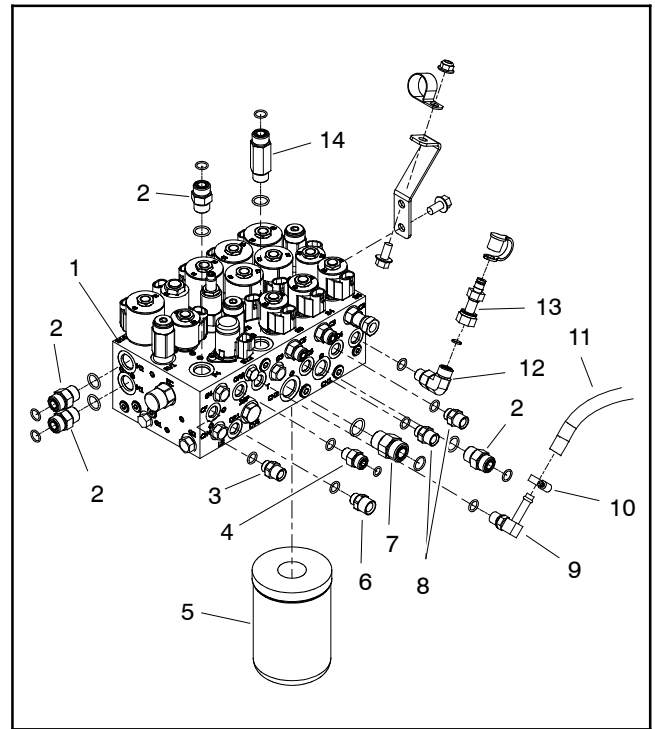

Figure 75
6. If hydraulic fittings are to be removed from manifold, mark fitting orientation to allow correct assembly (Fig. 75). Remove fittings from manifold and discard O-rings.